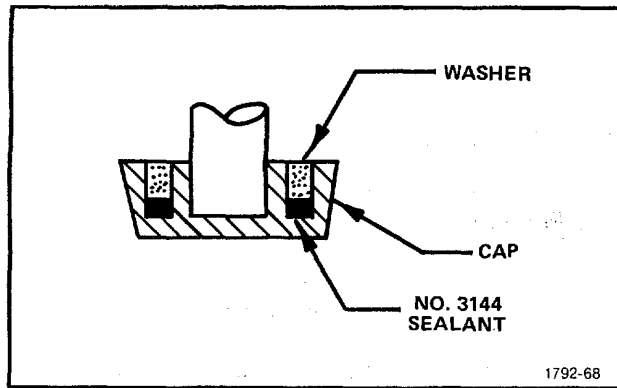

Figure 5-14. Detail of Fuseholder Caps.
15. Install Fuseholder Caps (see Fig. 5-14)